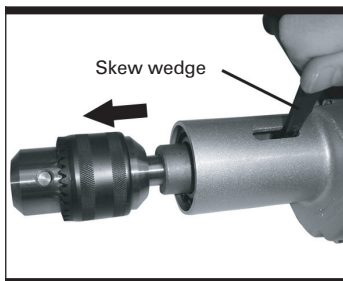

Fig 7
6. Removing the chuck (see fig7)